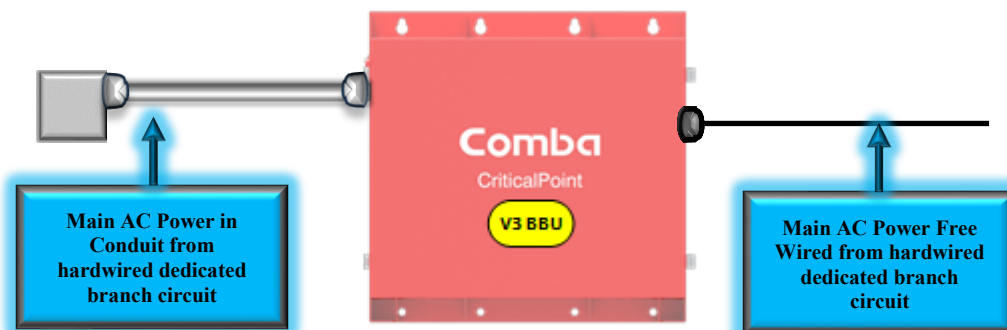

Figure 50: V3 BBU Main AC Input Installation Example
- Run the Main AC Cable through a knockout on the BBU into the BBU for connection. It is recommended to use a 1/2" knockout for ease of installation. The cable can run through a conduit from a hardwired dedicated branch circuit to the BBU as shown in Figure 50. If using conduit, a liquid tight conduit connector, as shown in Figure 46, must be installed to maintain the UL50E NEMA 4 rating for waterproofing. This connector is not included and must be provided by the installer.